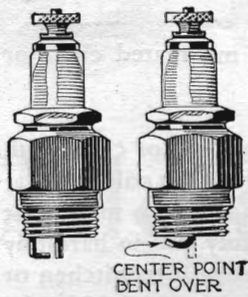

Fig. 1. If the outer point breaks, bend the inner point over close to the rim.
**T**WO common causes of spark plug failure are carbonization and burned or broken electrodes. An emergency repair for a broken electrode is shown in Fig. 1. Here the outer electrode is broken off. To make the spark plug work, simply bend the center electrode over close to the rim of the shell. This can be done, however, only if the center electrode is long enough.